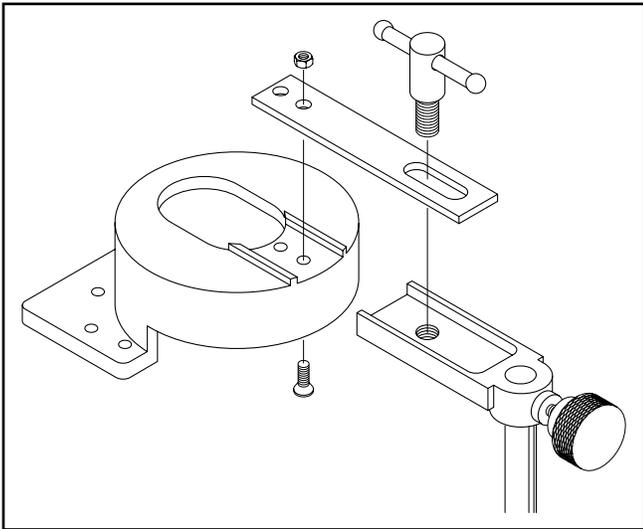

Figure 10. Safety guard assembly.
2. Using the two $\frac{5}{16}$ " - 18 x $\frac{3}{4}$ " Phillips® head screws, tightly secure the extension bar to the main guard. **See Figure 10.**